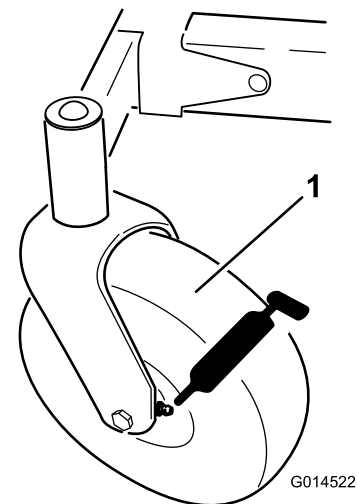
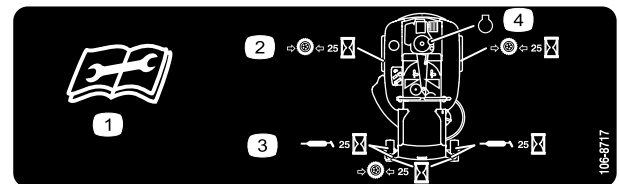

Figure 26
Figure 27
3. Clean the grease fittings (Figure 26 and Figure 27) with a rag. Make sure to scrape any paint off of the front of the fitting(s).
4. Connect a grease gun to each fitting (Figure 26 and Figure 27). Pump grease into the fittings until grease begins to ooze out of the bearings.